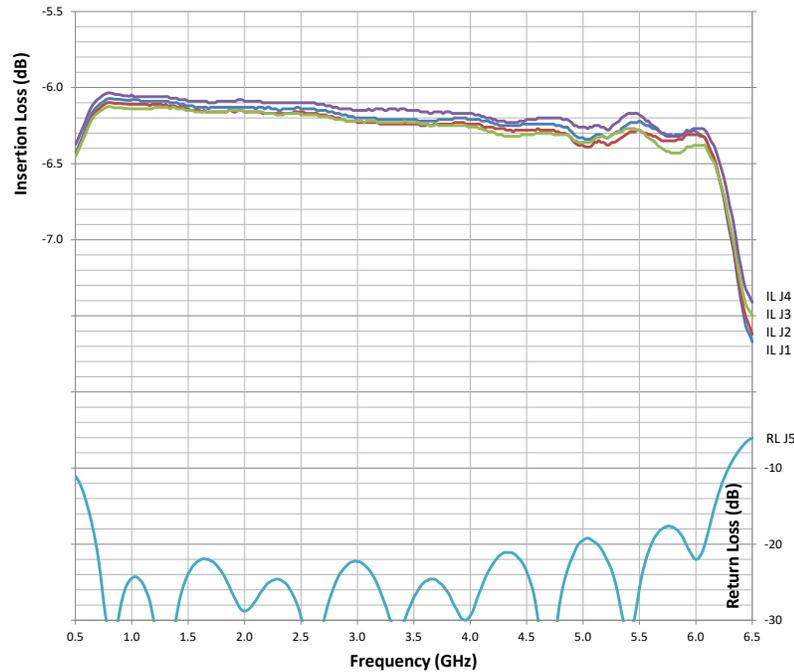

Figure 4-4. Typical 4-Way Splitter Insertion Loss and Return Loss
- A typical Four-Way Splitter insertion loss is shown in Figure 4-4. The unused ports must be terminated when checking the insertion loss. Typical combined port return loss is shown in Figure 4-4.